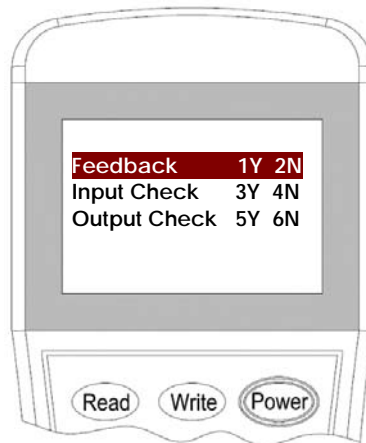

Figure 11
4. Input the **"1"** for Self-feedback mode or **"2"** for External-feedback mode then press **"Write"** to change the setting (Figure 11).